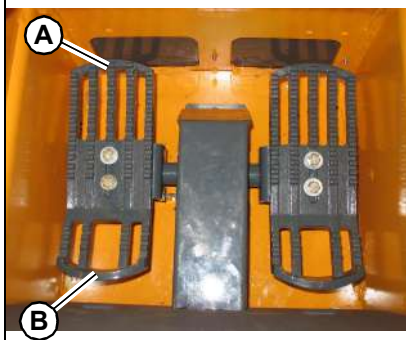

Figure 35 – Lift/Tilt Control (Foot Controls)
2. Press button (A, Figure 35) to activate float:
- Press button (A) momentarily to apply float momentarily.
- Press and hold button (A) for 5 seconds to activate continuous float. Press button (A) again to deactivate continuous float.